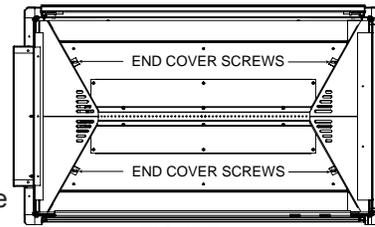

FIGURE 1
- C. Remove 2 screws from each end cover to remove covers. (FIGURE 1)